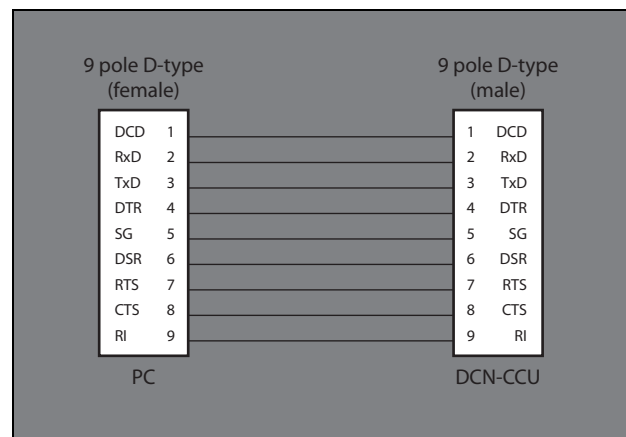

figure 8.20: PC to DCN-CCU
- 3 Connect COM 1 of the temporary PC to the central control unit that is used to control video cameras (refer to figure 8.20).